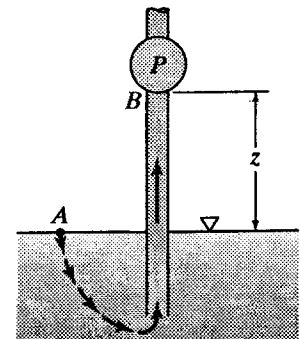

Figure P5.36
- 5.36 In Fig. P5.36 friction losses in the pipe below pump P are  $1.8V^2/2g$  with the barometer pressure at 12.50 psia. The liquid in the suction pipe has a velocity of 7 fps. What would be the maximum allowable value of  $z$  if the liquid were (a) water at 70°F; (b) gasoline at a vapor pressure of 9 psia with a specific weight of 47 lb/ft3?